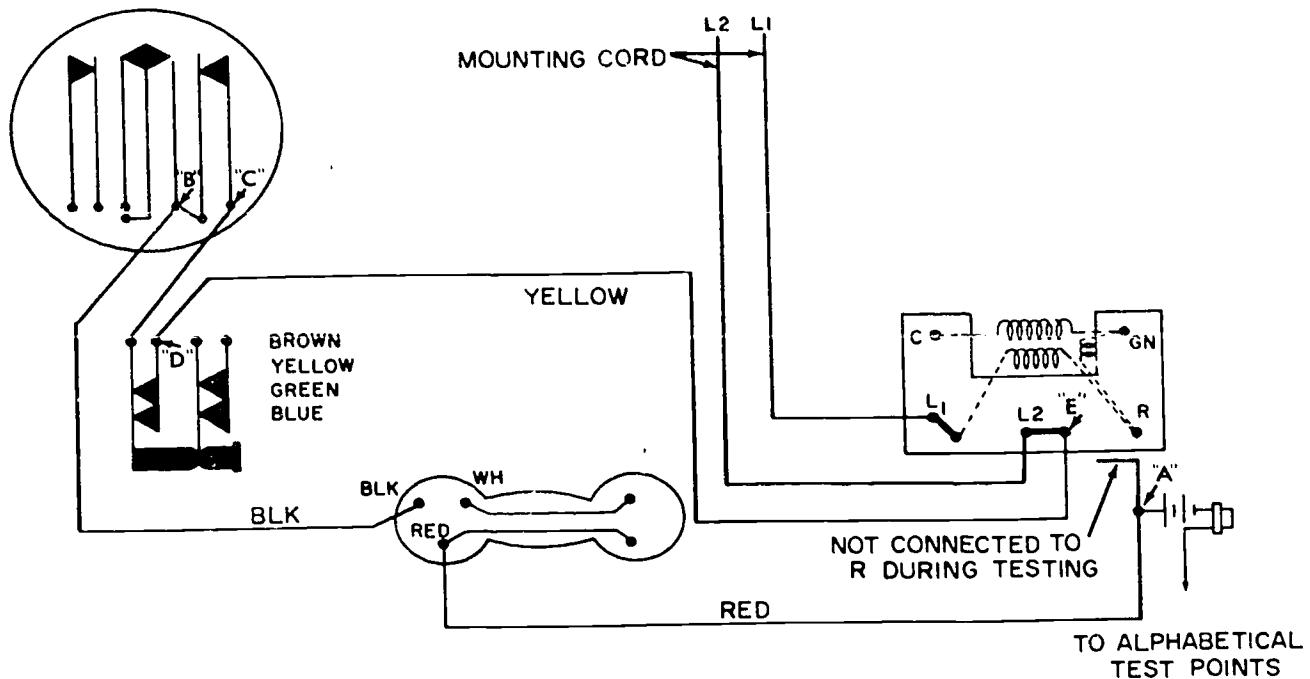

Figure 5-3. Transmit test.
Testing the Transmitter Circuit. Assuming that the telephone can neither transmit nor receive, you must check the transmitter circuit before you check the receiver circuit. While studying the transmitter circuit, refer to the simplified diagram shown in figure 5-3. Note that the RED lead has been disconnected from the R terminal of the induction coil and that a test receiver and battery are connected to the RED lead. This point of connection is identified with the letter A in the illustration, and it is one of the test points used in all of the transmitter tests. Touch the other test lead to points B, C, D, and E as you continue the testing. Before we consider the transmitter tests any further, let us examine the circuit components between points A and B in figure 5-3. You can see that a RED lead extends from test point A to the RED terminal on the handset. Also note that a black (BLK) lead extends from test point B to the BLK terminal on the handset.
Although it is not shown as such in figure 5-3, we assume that the telephone transmitter is connected between terminals BLK and RED in the handset. The transmitter, as you may recall, makes contact with these terminals through spring contacts in the handset. With the transmitter in place in the handset, the circuit should be complete from test point A to point B. To test this circuit, connect the test receiver from point A to B and then blow or talk in the handset transmitter as you listen to the test receiver. If the sound comes through the test receiver satisfactorily, the circuit from point A to point B is all right. However, if the sound does not come through the test receiver, the transmitter or one of the connecting leads (RED and BLK) is defective. When this is the case, test the transmitter and each lead separately to determine which is at fault.
1. What component is tested when you follow the check at test point B with the test at point C? (See text fig. 5-3.)
2. What test points shown in text figure 5-3 are checked to determine the condition of the strap at induction coil L2?
3. When testing a transmitter circuit such as the one shown in figure 5-3 of the text, what is indicated if the test from point A to point C is satisfactory, but sound does not come through the test receiver while testing from point A to point D?
in the circuits of figures 5-3 and 5-4 that the receiver and transmitter circuits are wired in series to the hookswitch and the dial pulsing springs (spring contact between points B and C in fig. 5-3). These pulsing springs are normally closed. They open only while the dial is returning to normal after a number has been dialed. They open and close during this period the same number of times as the digit dialed. For example, if the number dialed is 6, these pulsing springs open and close six times in order to transmit six electrical impulses to the central office. To keep these pulses from being heard in the receiver as clicks, the receiver is made inoperative during the dialing period by the dial shunting springs, which either open the receiver circuit or short it out, depending on the type of dial used. Furthermore, some dials have additional shunting springs to increase the strength of the electrical impulses. Their action decreases the resistance of the telephone by shorting out the transmitter or the transmitter and a portion of the induction coil when the dial is not in the normal rest position.